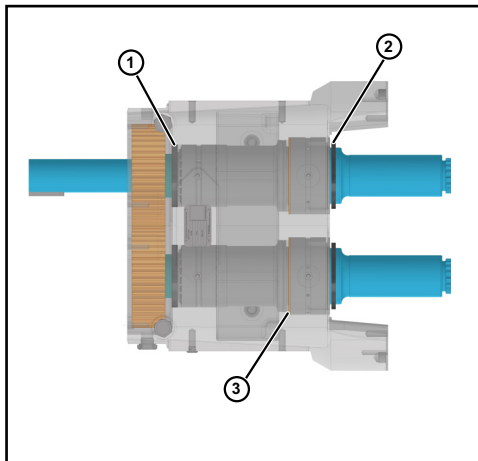

Figure 53 - Remove Oil Seals and Shims
10. Remove the shims (3). If the shafts and bearings will be reused, identify the shims and bearings that belong with each shaft, as shown in Figure 53.
11. Press out and discard both rear oil seals (3) in the gear case, as shown in Figure 53.